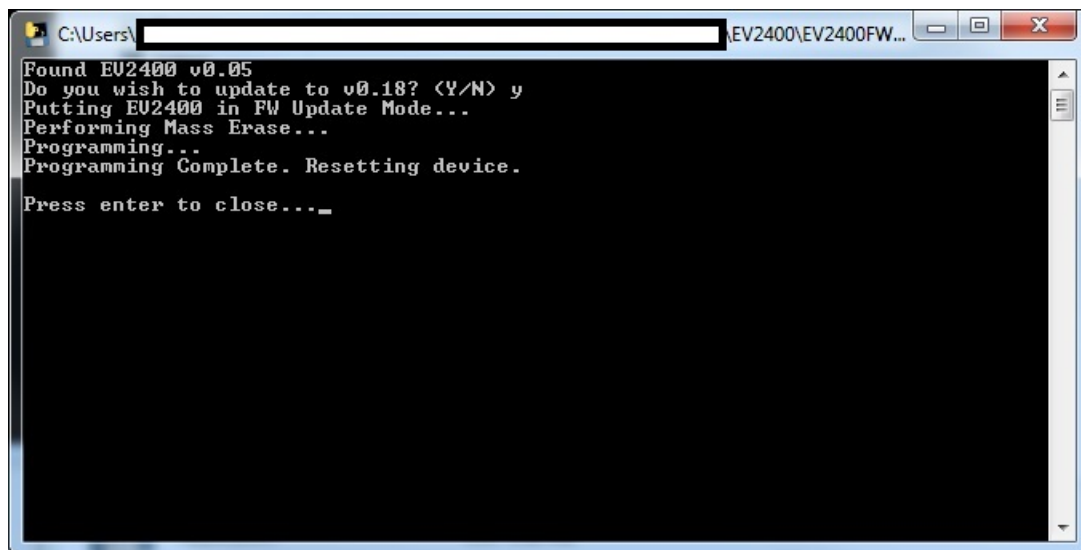

Figure 3. Update Complete Screen
10. The Firmware Updater tool should place the EV2400 into FW Update mode, perform a mass erase of the older EV2400 version's firmware, program the EV2400, and then reset the device. The tool will prompt the user to continue when finished. See Figure 3.